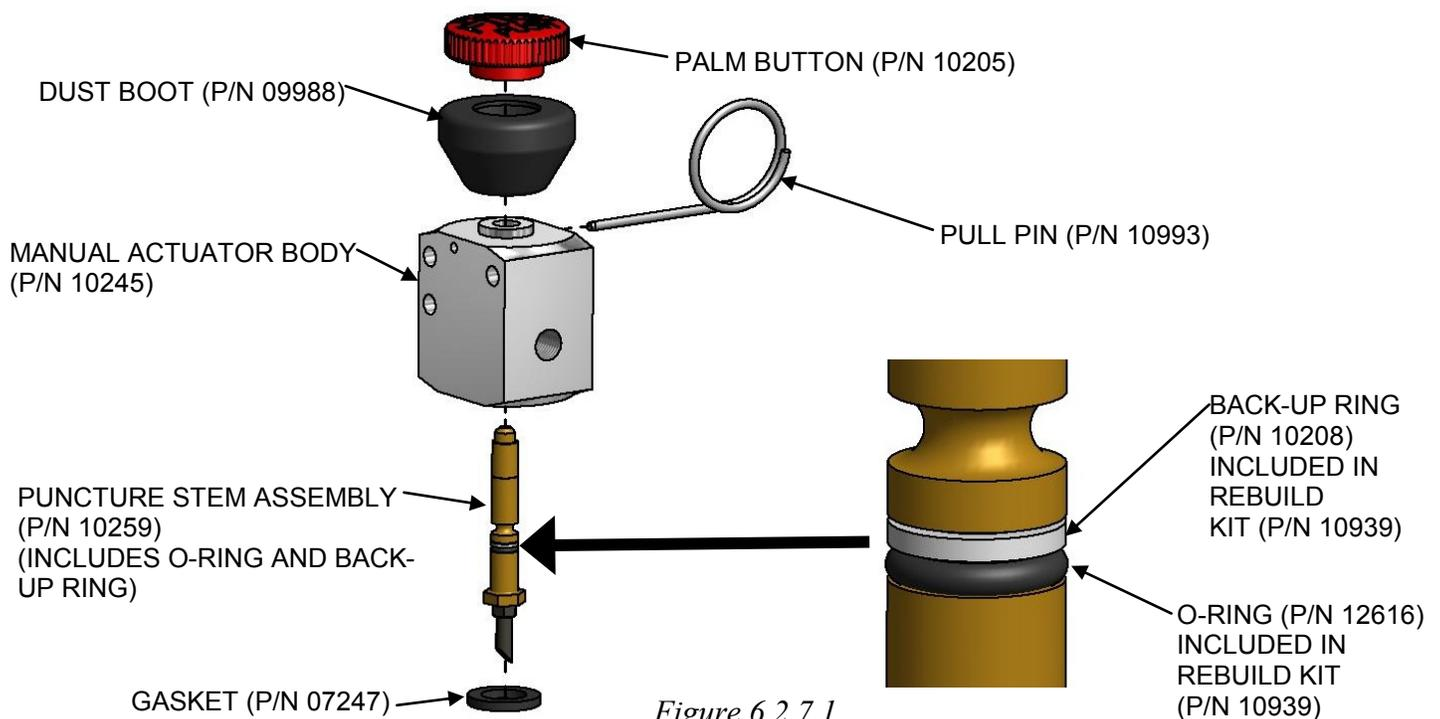

Figure 6.2.7.1
**Actuator Cleaning (See Figure 6.2.7.1):**
**Actuator Reassembly (See Figure 6.2.7.1):**